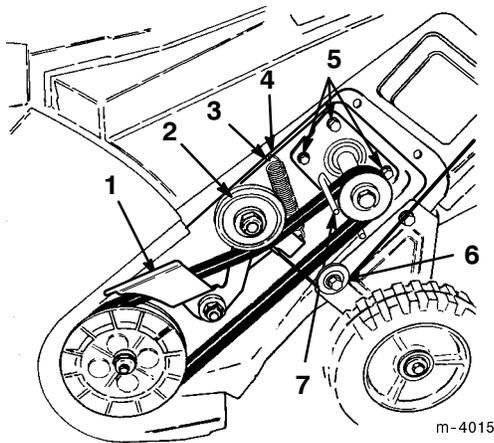

Figure 18
- Loosen the four engine mounting nuts enough to allow the belt guide to rotate away from the drive pulley to remove the belt (Fig. 18).
- Ensure that the long end of the idler spring is hooked in the housing hole and the round end of the spring is hooked in the brake arm (Fig. 18).
- Lift up the brake arm assembly, squeeze the drive belt together, and route the drive belt under the idler pulley (Fig. 18).
IMPORTANT: Ensure that the drive cable is on the cable pulley before you install the left side cover (Fig. 18)